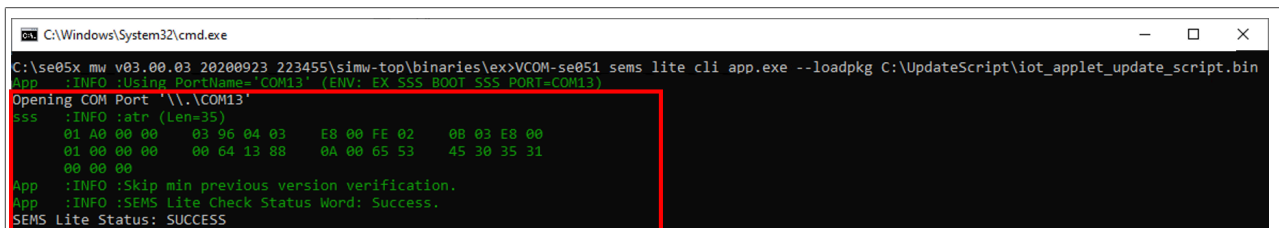

Figure 44. Execute SEMS Lite script using SEMS Lite CLI
2. To execute the IoT applet update script that you have downloaded from EdgeLock 2GO, first convert the JSON script to .bin as described in Section 5.3, then use the SEMS Lite CLI tool to run the script as shown in Figure 44. Make sure that the FRDM-K64F board is connected to the PC using VCOM before proceeding. Send: